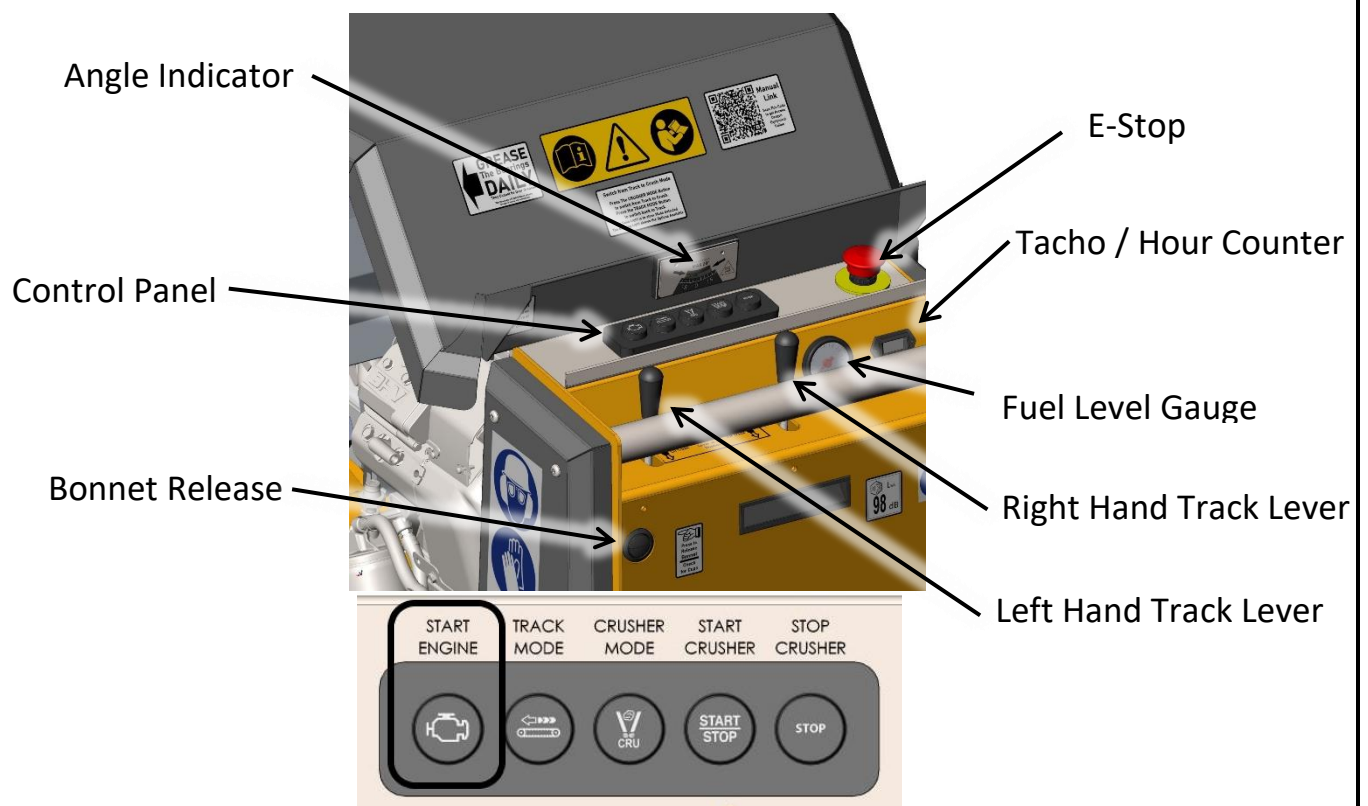

Figure 3: Summary of Switches, Controls and Gauges
- Press Start Engine Button on control Panel and the engine will crank over. Fig 3
- **Failure to reset the E-Stop will cause the Control Panel Button Lights to flash Blue. Fig 3**